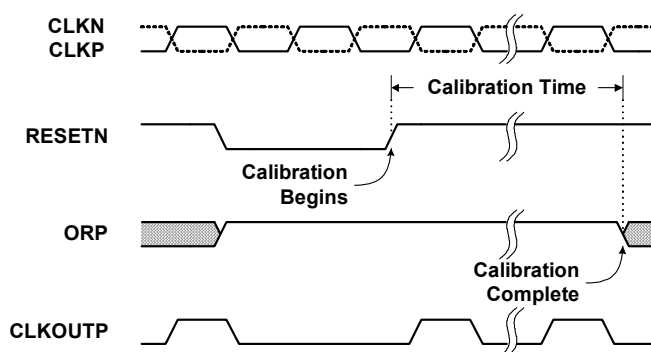

Figure 25. Calibration Timing
The calibration sequence is initiated on the rising edge of RESETN, as shown in Figure 25. The Over-Range (OR) output is set high when RESETN is pulled low, and remains in that state until calibration is complete. The OR output returns to normal operation at that time, so it is important that the analog input is within the converter's full-scale range to observe the transition. If the input is in an over-range condition, the OR pin stays high, and it is not possible to detect the end of the calibration cycle.